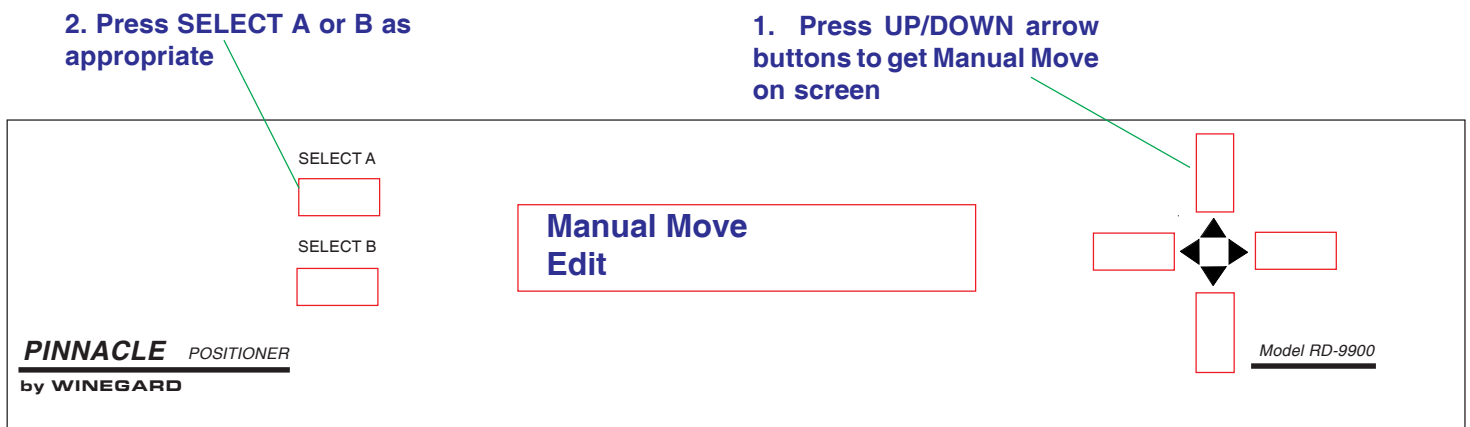

Figure 26
1. Press [UP/DOWN] arrow until **Manual Move** is displayed on positioner. See Figure 26.
2. Press [SELECT A or B] **Manual Move**, see Figure 26.